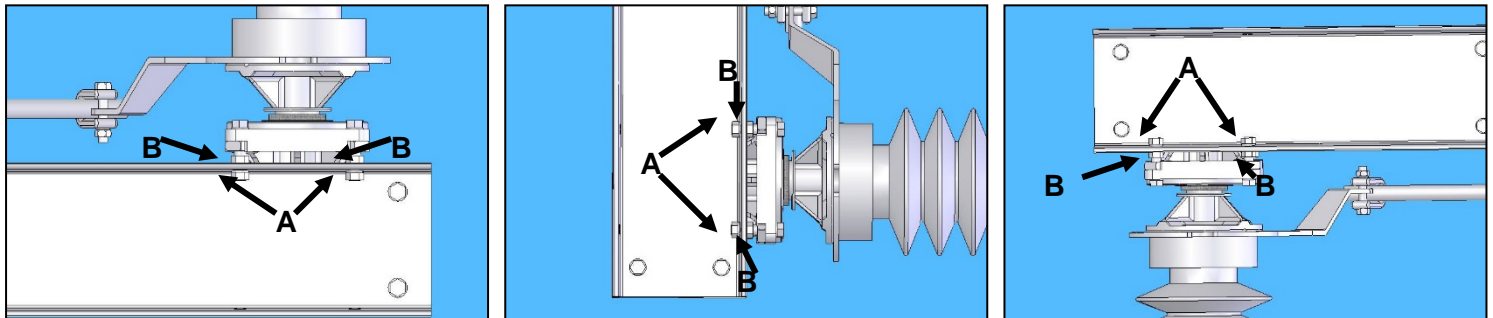

Figure 8: Insulator Stack Adjustment for Various Mounting Positions (72.5kV Bearing)
- 8.1. Refer to **Figure 8**. Adjust both “A” nuts and “B” nuts equally to prevent misalignment.